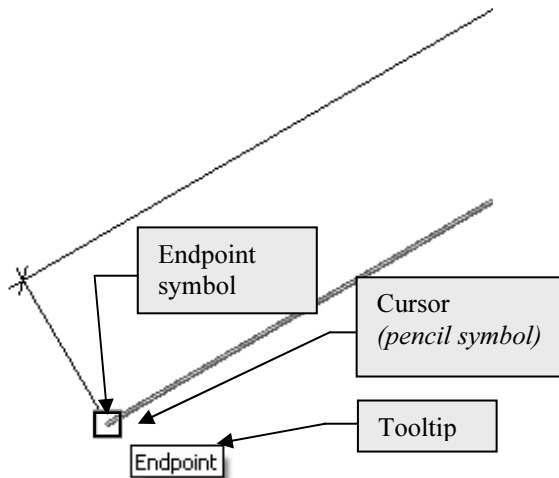

Figure 3-2.4 Endpoint SNAP symbol visible
10. Using the **Detail Lines** tool, move your cursor to the lower-left portion of the diagonal line (Figure 3-2.4).